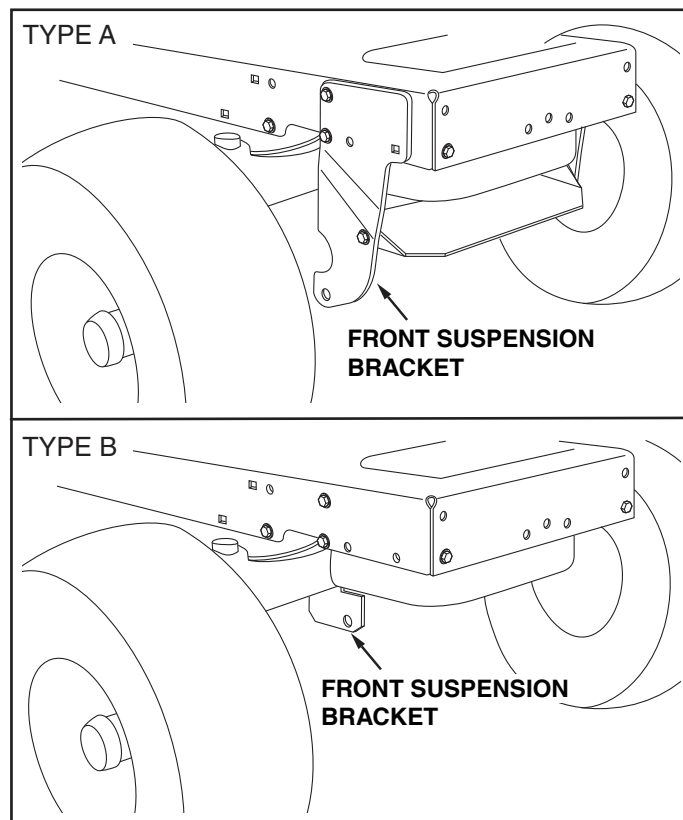

FIGURE 4
- Compare your tractor to the tractors shown in figure 4. If your tractor resembles "TYPE A" go to step 8. If your tractor resembles "TYPE B" go to step 12.